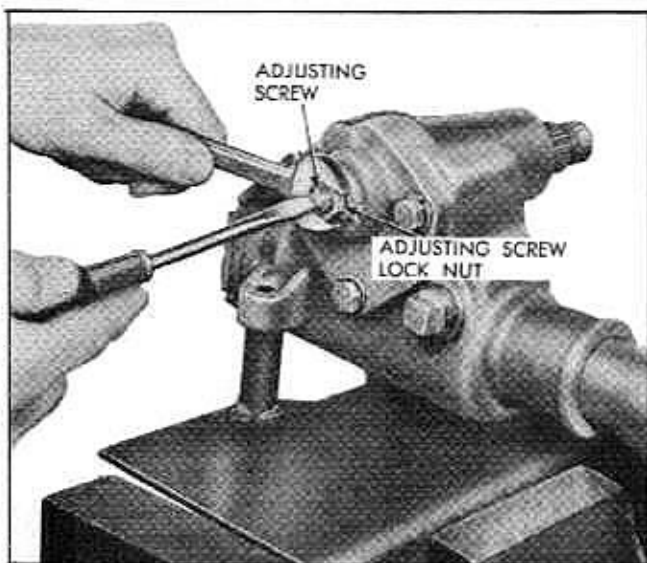
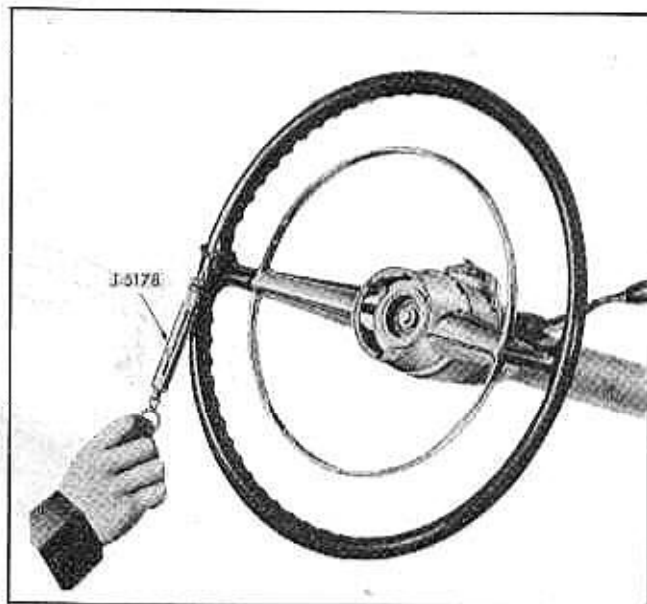

Fig. 9-2 Adjusting Pitman and Ball Nut Backlash
Fig. 9-3 Checking Pull at Wheel Rim
4. Loosen pitman shaft adjusting screw lock nut and back off adjusting screw a few turns (Fig. 9-2).
5. With a spring scale at rim of steering wheel, measure pull required to keep wheel in motion when off high point (at least 30° off center) (Fig. 9-3).
1. When worm bearing preload has been adjusted correctly, pitman shaft adjusting screw (Fig. 9-2) should be turned clockwise until a pull of 1 to 2 pounds at the steering wheel rim is required to turn the wheel through center (Fig. 9-3).